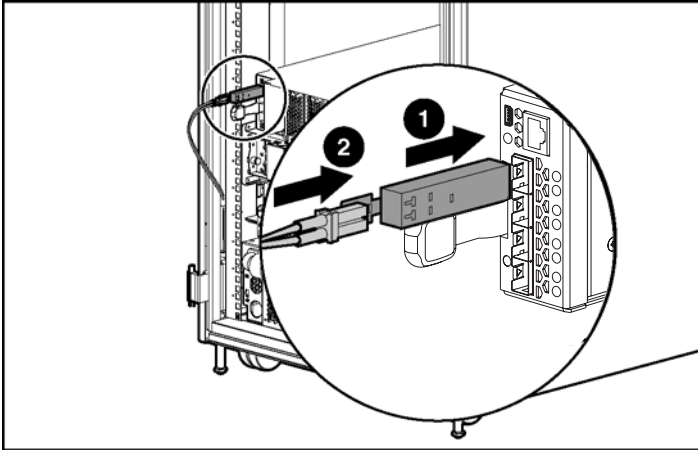

Figure 8 Installing an SFP transceiver(1) and optical cable (2)
4. Install the transceivers and cable into the 4Gb SAN Switch (see Figure 8):
- a. Insert the SFP transceivers (1) into the FC switch ports. Install protective dust plugs on transceivers without optical cables attached to prevent damage and contamination.
- b. Insert the optical cable (2) into the SFP transceiver. When fully seated, both the transceiver and the cable click into place.